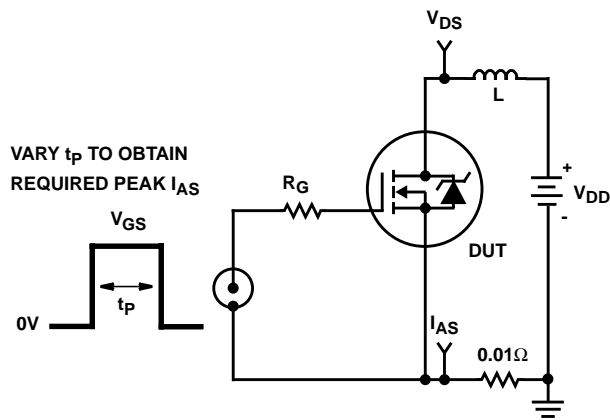

FIGURE 14. UNCLAMPED ENERGY TEST CIRCUIT
4.  $V_{DD} = 25\text{V}$ , starting  $T_J = 25^\circ\text{C}$ ,  $L = 440\mu\text{H}$ ,  $R_G = 50\Omega$ ,  $I_{PEAK} = 28\text{A}$ . (See Figures 14 and 15).